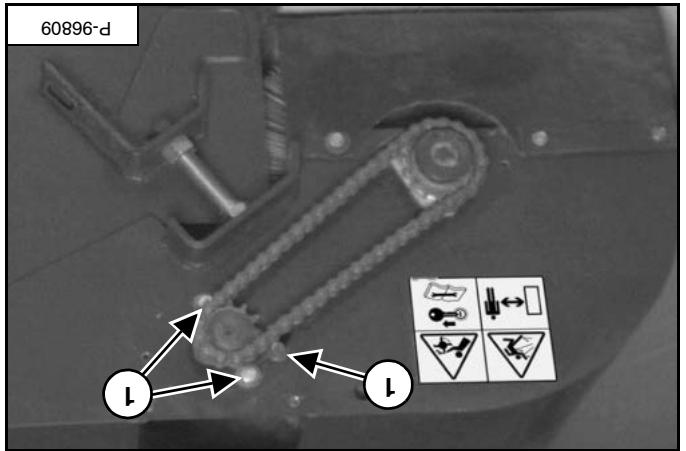

Figure 134
Loosen the bolts (items 1) [Figure 134] on the hydraulic motor.